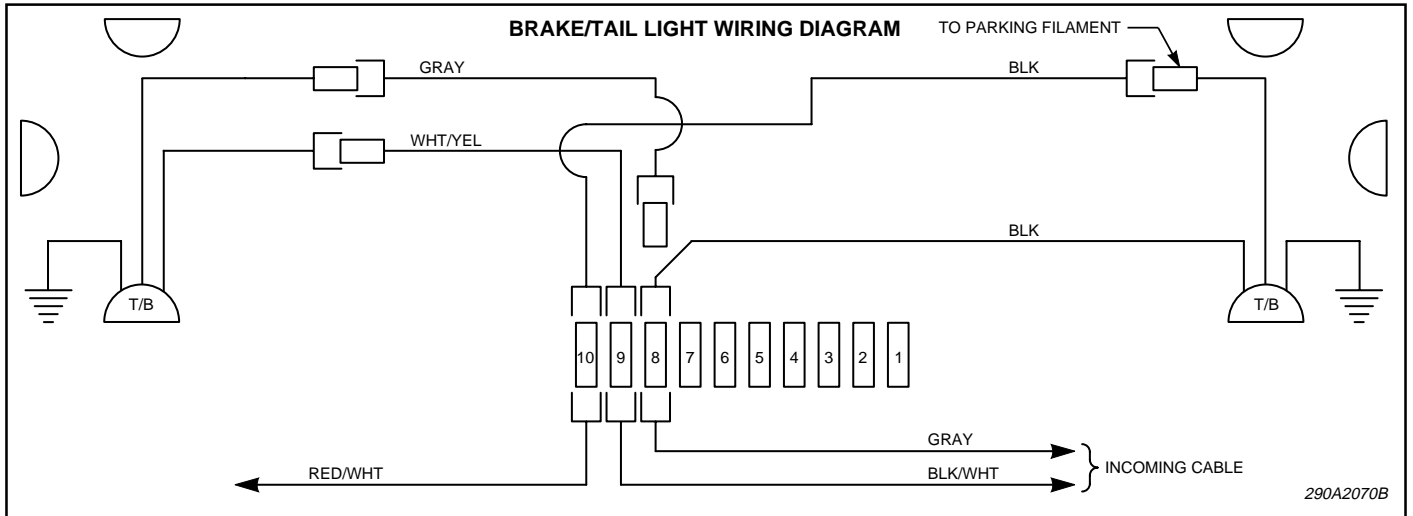

Figure 3.
5. Re-connect the black ground wire removed in step 1. Connect the two insulated lamp terminals as shown in figure 3.